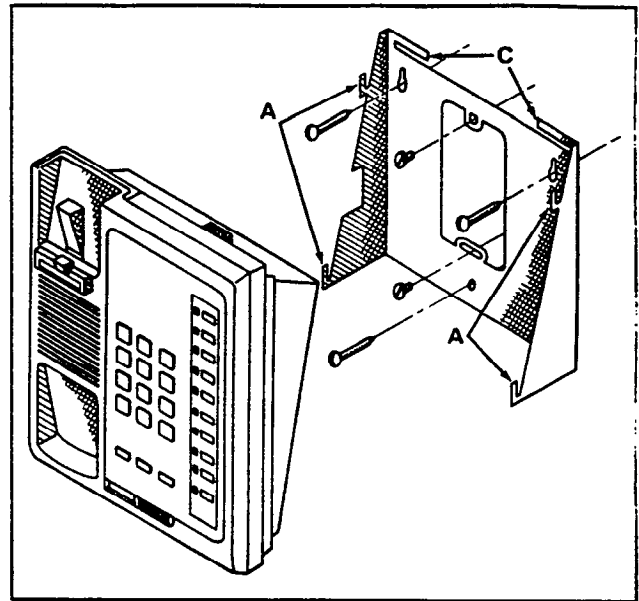
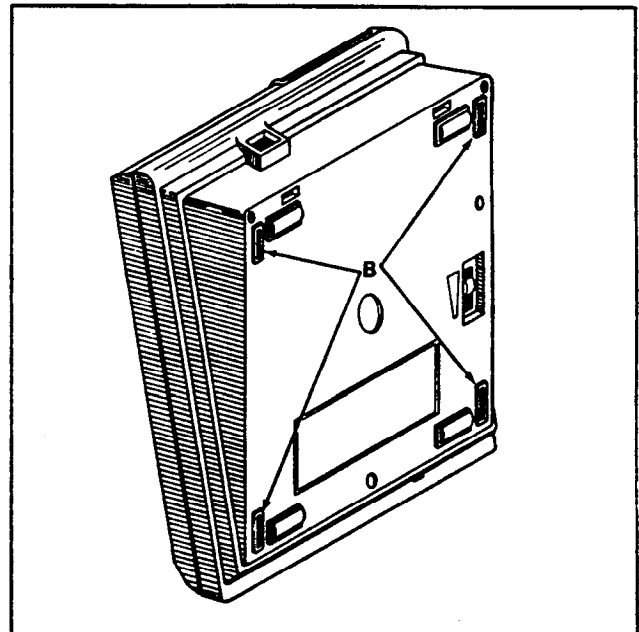

FIGURE 21—WALL MOUNT BRACKET
FIGURE 22—BRACKET SLOTS
10.14 With the wall bracket the "S" EKT can be mounted to any suitable vertical surface or to a telephone outlet plaster ring (see Figure 21). Secure the wall bracket to the desired wall site, and use a spirit level, if necessary, to make certain the bracket is level.
matting the bracket's four hooks (A—Figure 21) with the four slots on the EKT base (B—Figure 22) and sliding the EKT downward. The EKT is secured in position by bending the two tabs (C—Figure 21) forward in order to prevent upward motion of the EKT.